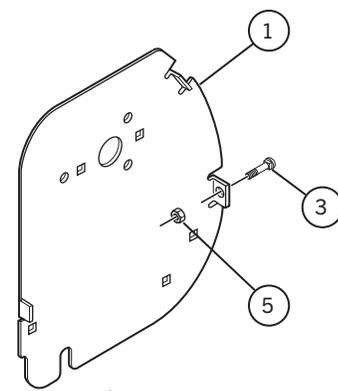

Figure 6-1
1) **Figure 6-1.** Install 3/8-16 x 1 carriage bolts (3) and 3/8-16 Nylon hex nuts (4) in the driver's side and passenger's mounting plates (1). Do not tighten.
2) Slide end plates (1) into wind deflector's extrusion. Do not tighten.
3) Carefully place assembly onto the cab shield or top rail and position at the farthest point forward. This will keep the air from coming in under the wind deflector (2) to a minimum.